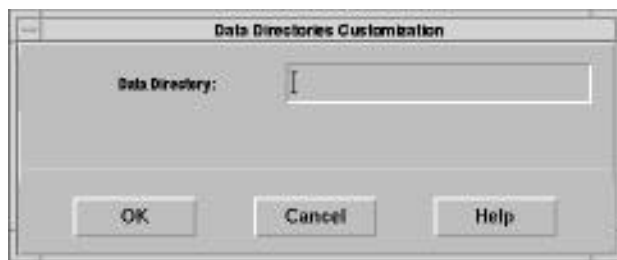

Figure 7.4.6-1. Data Directory Customization Window
1. **Open the Data Directory Customization window (see Figure 7.4.6-1).**